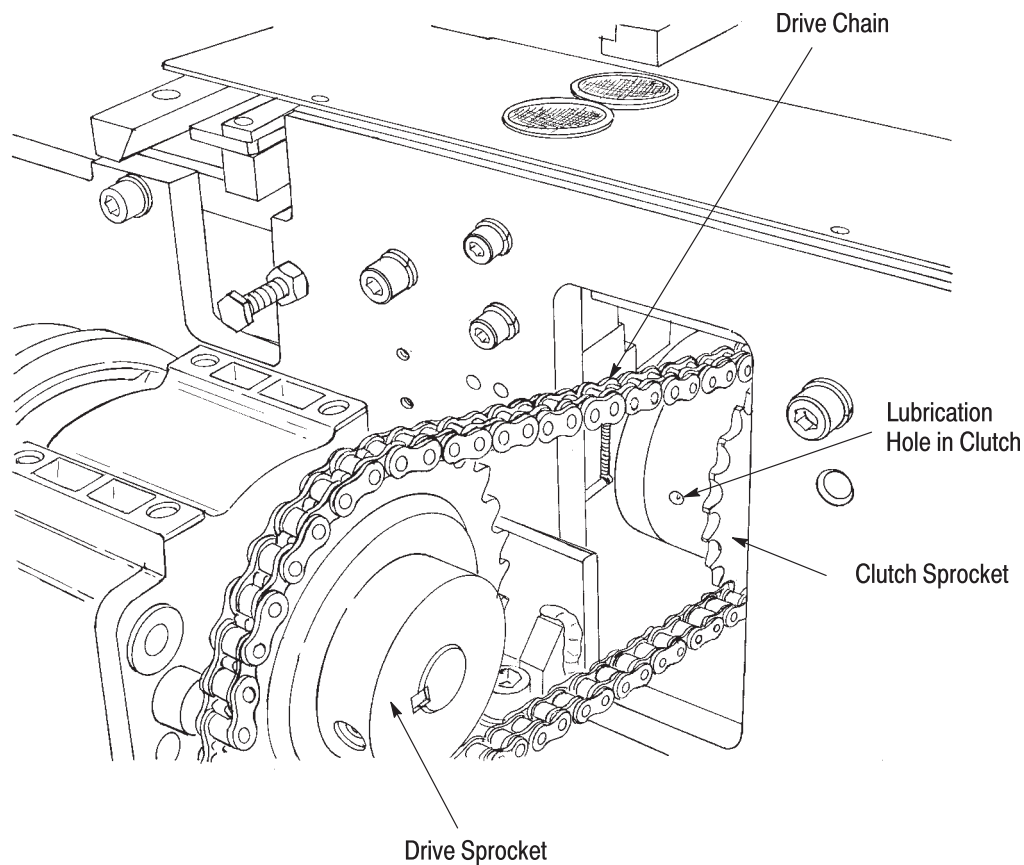

Figure 18
Clutch not lubricated.	Lubricate clutch. Refer to Figure 18.
3. Lubricate clutch where shown (in Figure 18) with a good grade clutch lubricant.